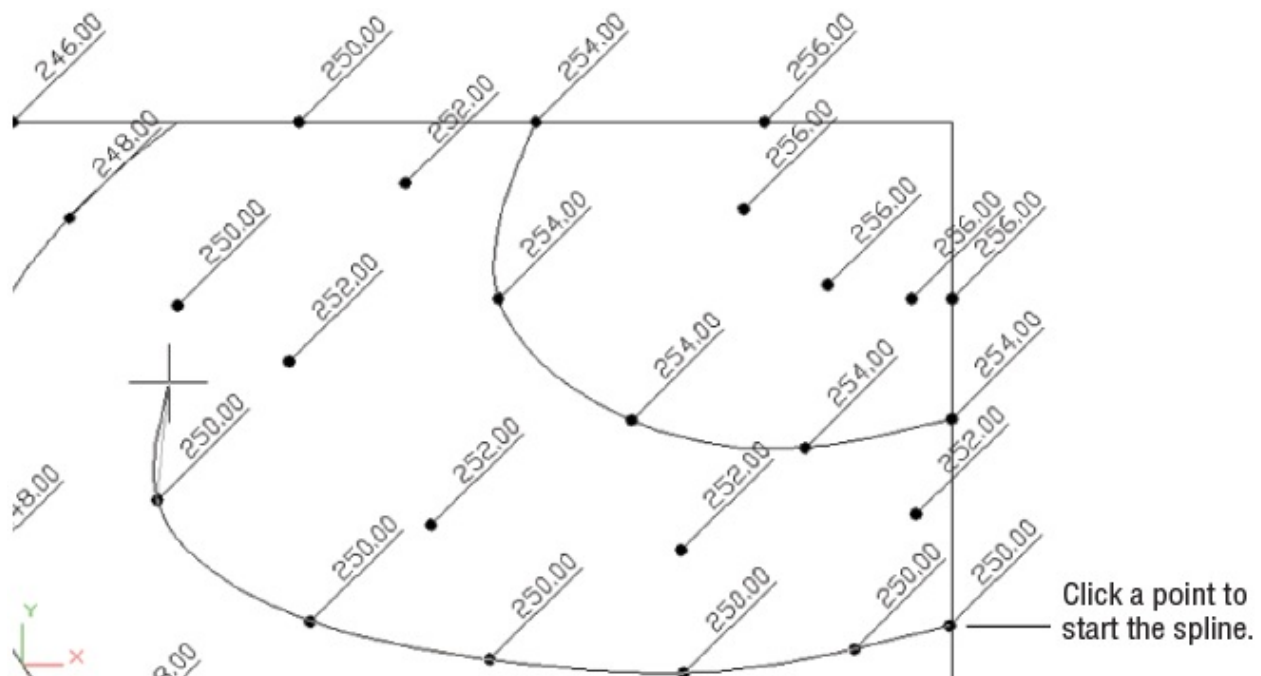

FIGURE 18.20 Start the spline curve at the first data point, and then continue to select points.
3. At the Specify first point or [Method/Knots/Object]: prompt, select a point to start the curve (see Figure 18.20). The prompt changes to Enter next point or [start Tangency/toLerance]:.
4. Continue to select points until you've entered all the points that you need. As you pick points, a curve appears, and it bends and flows as you move your cursor. In Figure 18.20, the Center object snap was used to select the donuts that appear as dots in the survey plan.